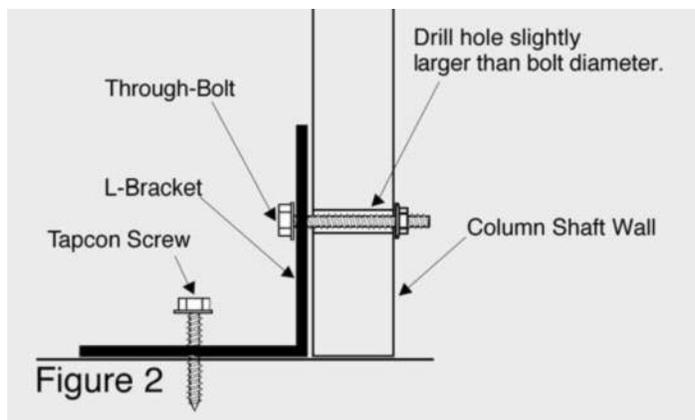

Figure 2
4. If installation requires some method of securing the column in place before load is applied, use Endrua-Stone Installation Kit #71760 (see figure 2) **NOTE:** Always drill clearance holes in columns and secure with through-bolts — **DO NOT USE SCREWS** — and do not over-tighten.